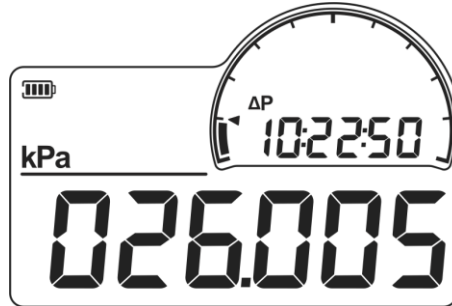

Figure 12 Leak test running
1. In the main display, long press the Unit button to switch the items in sub display area, and switch to ΔP . At this moment, the sub display area displays the leak test time, and the main display area displays the pressure value. Short press the Zero button to perform the pressure leak test, as shown in figure 12. The main display area displays the real-time pressure value, and the sub display area displays the test time. When the leak test is running, short pressing the Return button will stop the ongoing test and return to the main display.